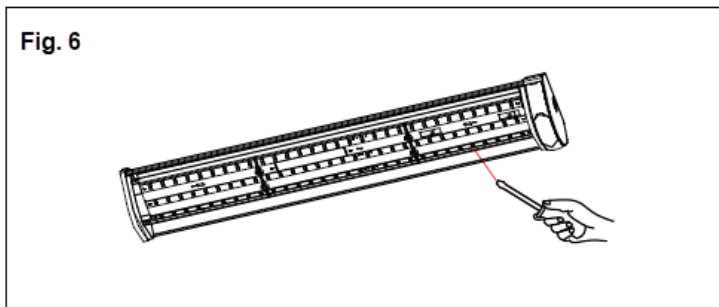

Fig. 6
7. Install the back plate back on and secure it with screws. (Fig. 6)